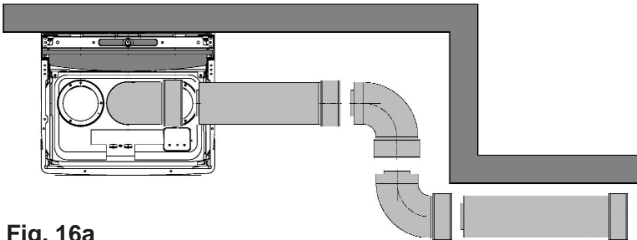

Fig. 16a
5.5.1.2 Extending the flue (see fig. 16a)
Additional bends & extensions have push-fit connections, care should be taken to ensure that the correct seal is made when assembling the flue system. Connect the required number of flue extensions or bends (up to the maximum equivalent flue length) to the flue terminal (see fig. 16a).
NOTE: When cutting an extension to the required length, you must ensure that the excess is cut from the plain end of the extension (see fig. 16a). Remove any burrs, and check that all seals are located properly.
If the vertical flue requires extension/s or additional bend/s, connect the required number of flue extensions or bends (up to the maximum equivalent flue length) between the boiler and vertical flue assembly (see fig. 16a).
NOTE: When cutting an extension to the required length, you must ensure that the excess is cut from the plain end of the extension (see fig. 16a). Remove any burrs, and check that any seals are located properly.